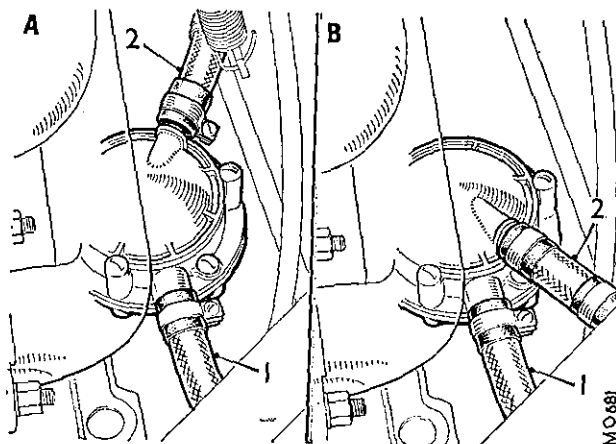

Fig. Db.1
- (1) Clean the outside of the pump and mark the cover and body for alignment when refitting (see Fig. Db.1 for correct positions of the inlet and outlet connections).
- (2) Remove the outlet cover, sealing washer, and filter.
- (3) Clean any sediment from the filter chamber and clean the filter (air jet or fuel).
- (4) Fit a new joint washer (if necessary), refit the outlet cover and tighten the screws evenly.